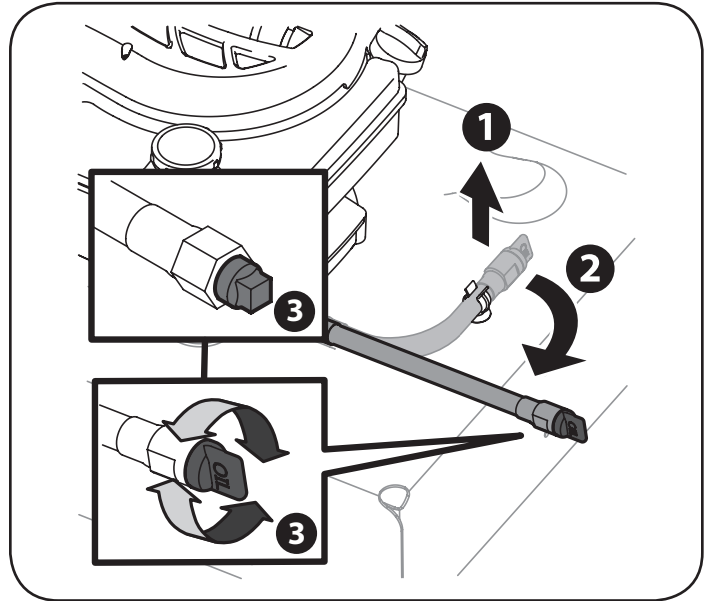

Figure 12
1. Pull up the oil drain hose to release it from the deck. See Figure 12.
3. Unscrew the cap on the end of the oil drain hose to begin draining oil. See Figure 12 inset.
NOTE: The engine is equipped with either a plastic twist-off or metal square head cap. Refer to Figure 12 insets.